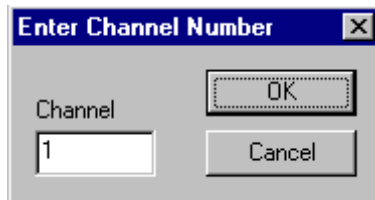

Figure 27. Enter Channel Number
4. From the **Options** menu, choose **Select Channel**. The *Enter Channel Number* pop-up is displayed, as shown in *Figure 27*.